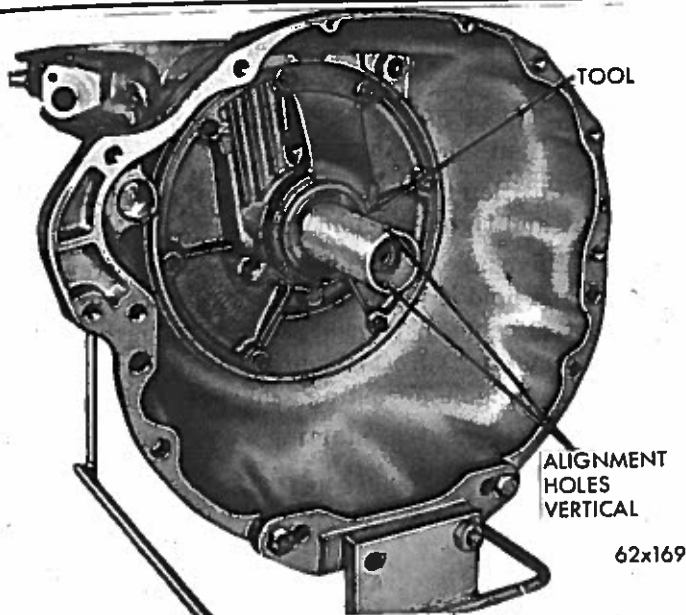

Fig. 39—Aligning Front Pump Rotors (Tool C-3881)
(1) Rotate the front pump rotors with Tool C-3881 until the two small holes in handle of tool are vertical (Fig. 39).
(2) Carefully slide the converter assembly over the input shaft and reaction shaft. Make sure the converter impeller shaft slots are also vertical and fully engage the front pump inner rotor lugs.